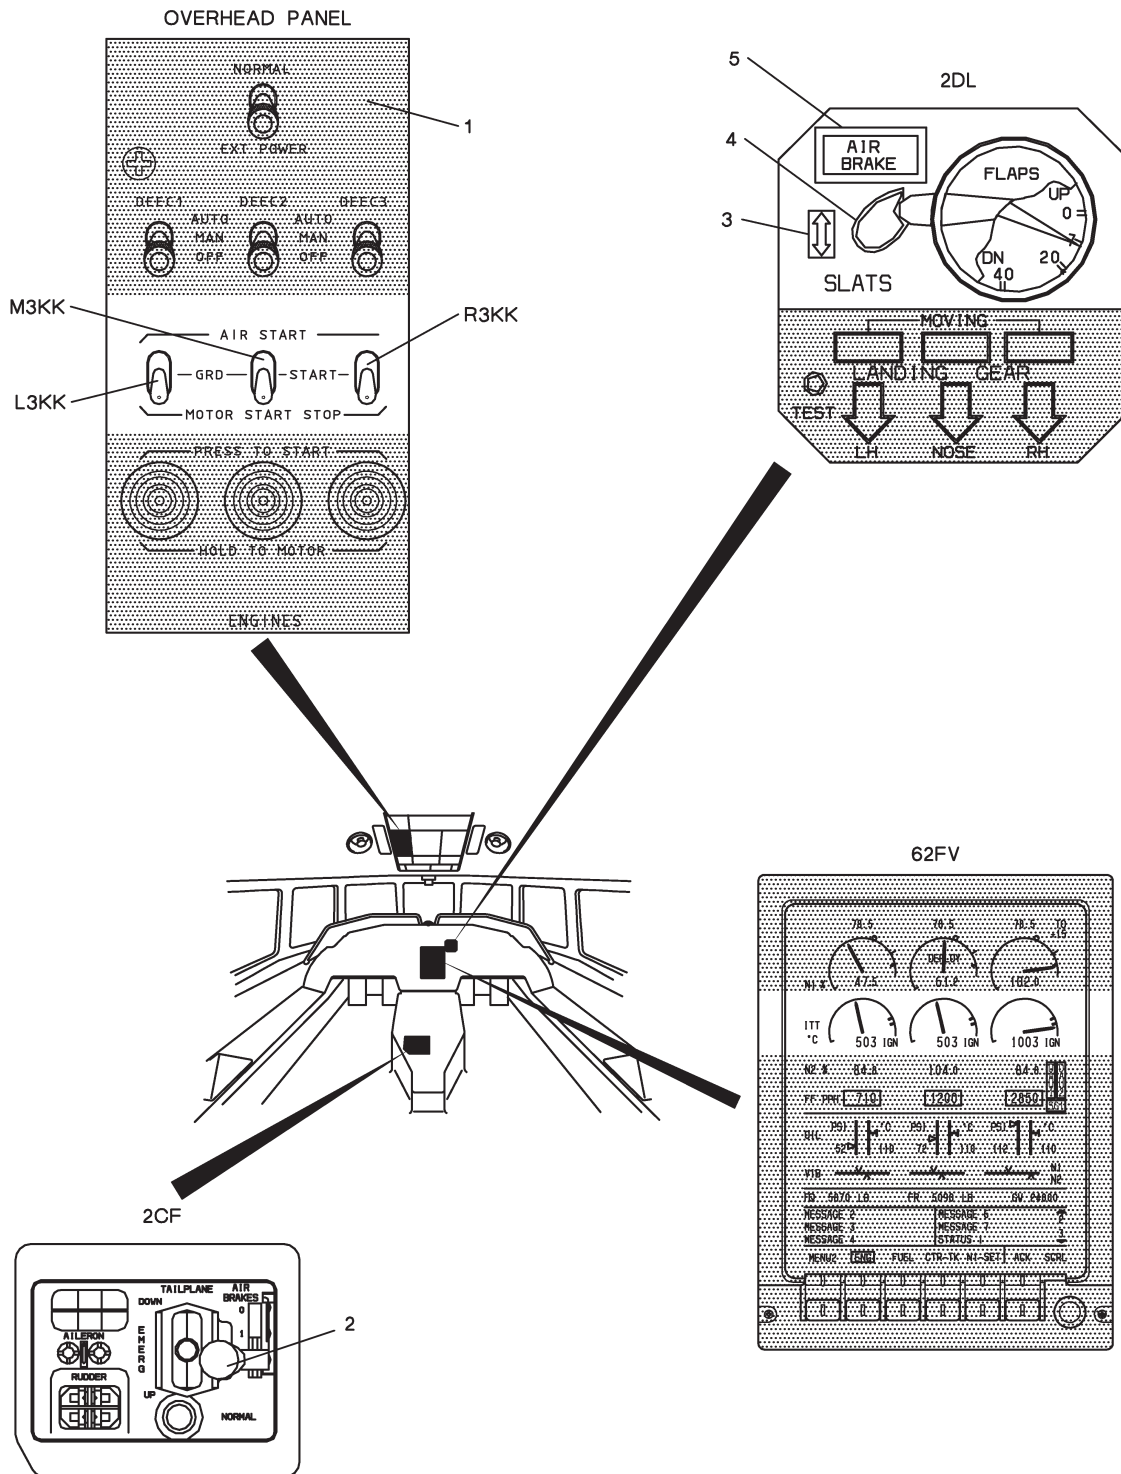

FIGURE 1: FUNCTIONAL TEST OF SLATS
- A. Refer to Figure 1: Functional Test of Slats
- (1) On slats / flaps control box (2CG), slats / flaps control lever is set to "CLEAN".
- (2) On overhead panel (1), engine 1, 2, and 3 start selector switches (L3KK, M3KK, and R3KK) are set to "GRD START".
- (3) On airbrake / tailplane / trims control box (2CF), airbrake control lever is set to "0".
- (4) "EMERG SLATS" switch is set to normal position (guard lowered).
- (1) Slowly move the pointer support (Refer to Dassault OEM procedure 27-801 c Figure 1) to increase the LH AoA sensor angle (L11CM).
- (2) Make sure that when angle $14^{\circ} \pm 30'$ is reached:
- (3) On configuration panel (2DL), once the outboard slats are fully extended, make sure that:
- (4) Select an IAS > 265 kt on the pilot air pressure systems.
- (5) Select an IAS < 265 kt on the pilot air pressure system.
- (1) Maintain LH AoA to an angle $14^{\circ} \pm 30'$. Make sure that outboard slats remain extended.
- (2) Slowly move the pointer support (Refer to Dassault OEM procedure 27-801 c Figure 1) to increase the RH AoA sensor (R11CM) angle to an angle $17^{\circ} \pm 30'$ and make sure that: